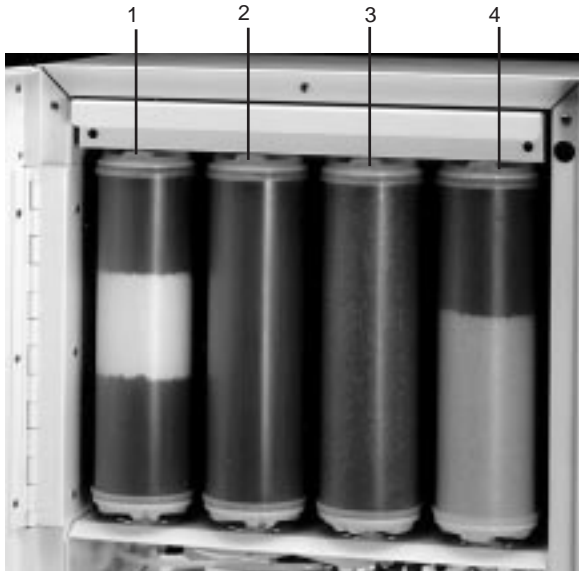

Figure 8 Proper Cartridge Order
2. The cartridges will be installed according to the charts below. Position 1 is the farthest left, position 2 the next one to the right, position 3 the next one to the right and position 4 farthest right. (See Figure 8). Proceed to step 3.